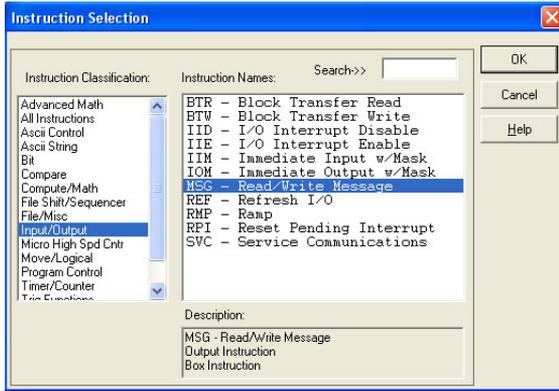

Figure 114: MSG Instruction Selection
d) Select the "MSG" instruction from the "Input/Output" classification, then click OK. Refer to Figure 114.